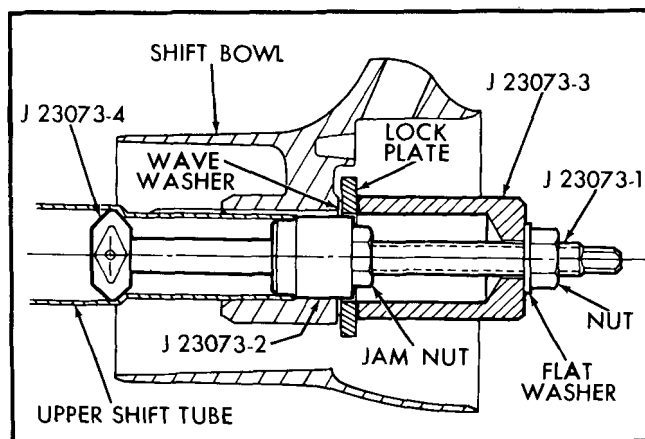

Fig. 9-63 Installation of Shift Tube Installer J 23073
4. Carefully install shift tube in lower end of mast jacket. Align keyway in tube with key in bowl and use tool J 23073 to pull shift tube into bowl (Fig. 9-63).